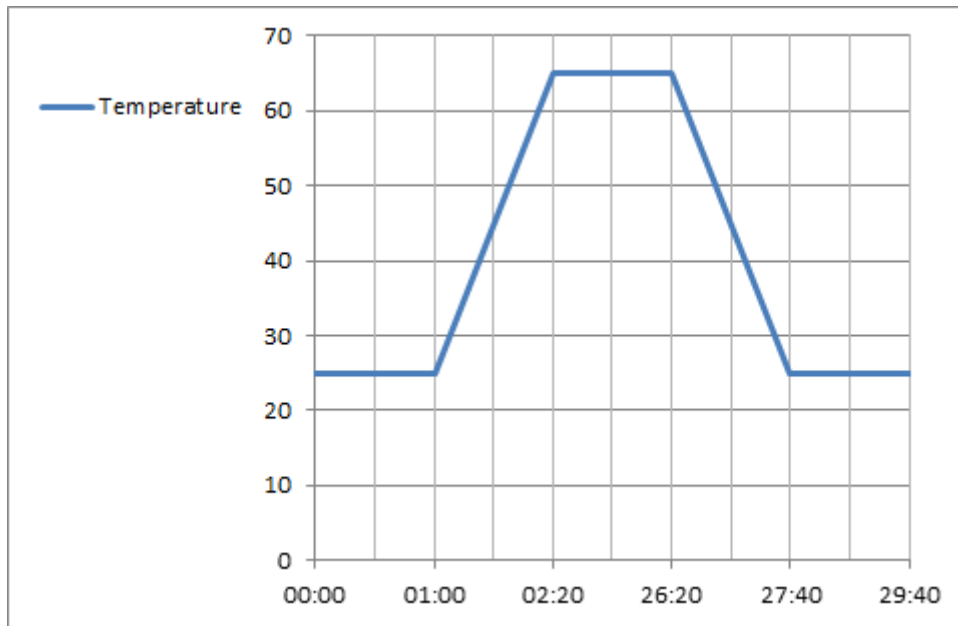

Figure 1.02.1.03 High temperature operating test curve
4. Test Environment Curve Figure 1.02.1.01 ~ 1.02.1.03
Figure 1.02.1.01 Humidity and temperature operating test curve
Figure 1.02.1.02 Low temperature operating test curve